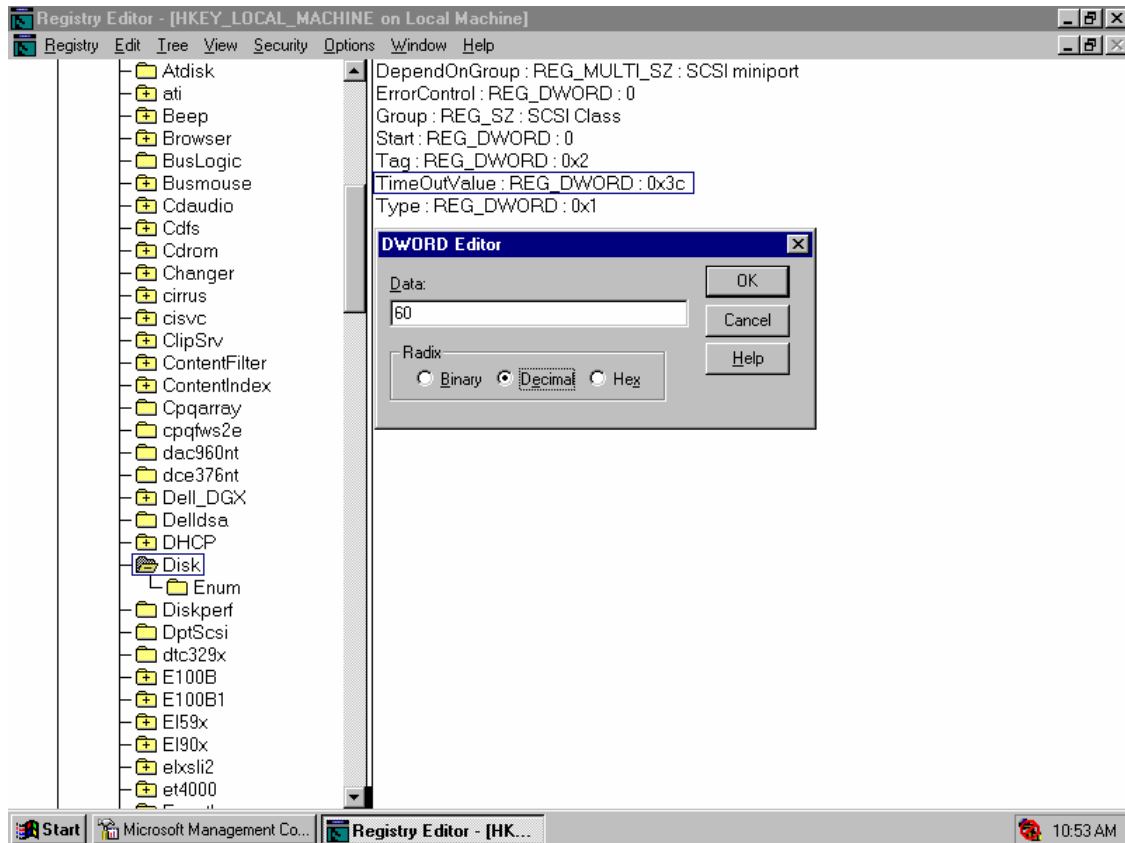

Figure 2.4 Verifying/Setting the Disk I/O TOV Using the Registry Editor
Verify the disk I/O TOV using the Registry Editor as follows (see Figure 2.4):
2. Display the disk parameters as follows: go to **HKEY_LOCAL_MACHINE → SYSTEM → CurrentControlSet → Services → Disk** (see Figure 2.4).